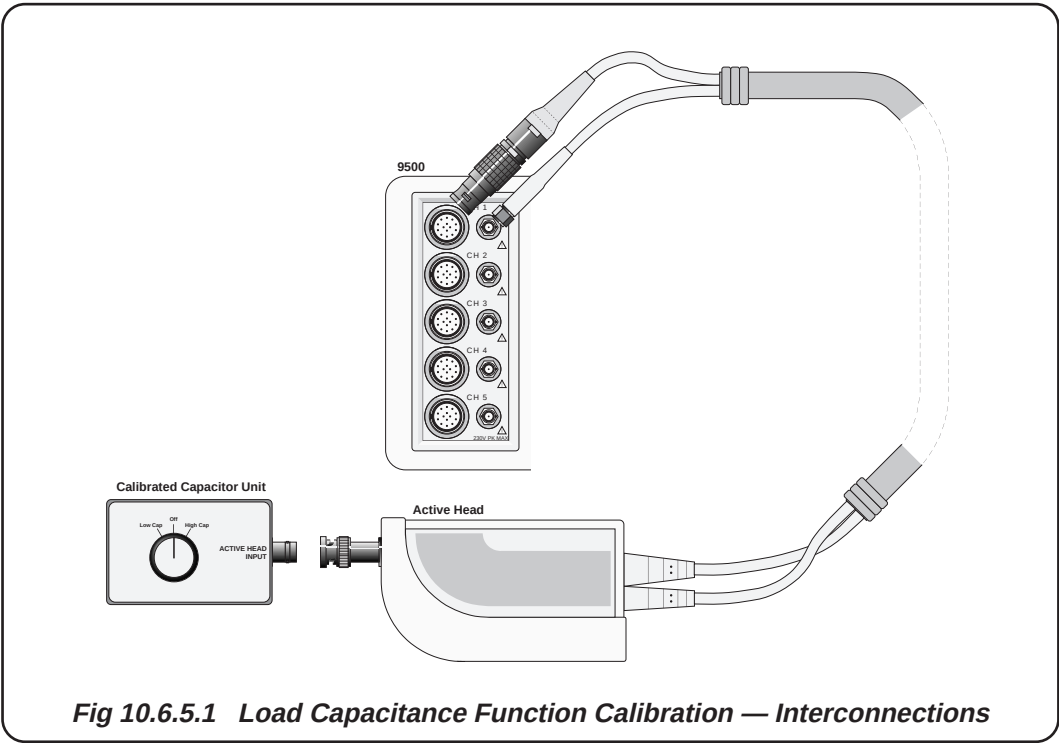

Fig 10.6.5.1 Load Capacitance Function Calibration — Interconnections
1. Make connections as shown in *figure 10.6.5.1*.